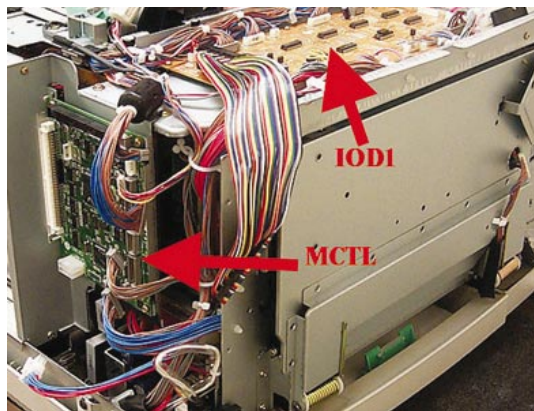

Figure 8 - Arrows denote IOD1 and MCTL boards, as labeled.
6. If the previous steps did not fix the problem, only then replace the IOD1 board, (12G7064) and the MCTL card, (12G7030) as necessary (Figure 8).